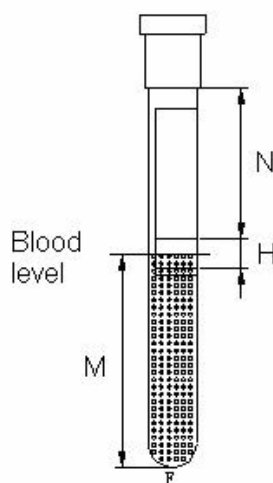

Figure 4-1
Every ESR tube has a label. The label should be attached on the tube flatly, otherwise the tube may be not able to insert into the hole or can not reach the bottom and cause wrong measuring result. The correct label position on the ESR tube is shown as figure 4-1. There are two indicating lines on the label. The distance between the two lines is 9mm, the position is shown as H in figure 4-1. The recommended position of the blood height (M) is 55mm (corresponding to 1.6ml, i.e. 0.32ml anticoagulant and 1.28ml whole blood). The blood level should reach between two indicator lines, thus the analyzer can detect the blood level correctly.
Note: the injected blood and coagulant should not exceed the range of H. In figure 4-1, the maximum value of M is 64mm and the